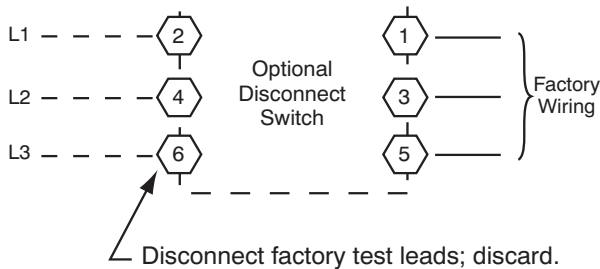

Fig. 22 - Power Wiring Connections
Field power wires are connected to the unit at line-side pressure lugs at the main terminal block (TB1) or at factory-installed option non-fused disconnect switch. Max wire size is #2 AWG (copper only). (See Fig. 22)
Size wire based on MCA (Minimum Circuit Amps) on the unit informative plate. See Fig. 22 and the unit label diagram for power wiring connections to the unit power terminal blocks and equipment ground. Maximum wire size is #2/0 AWG per pole.
The factory-installed option disconnect switch is located in a weatherproof enclosure located under the main control box. The manual switch handle is accessible through an opening in the access panel. Discard the factory test leads (see Fig. 22). The factory disconnect is an 80A disconnect.
2. Install power lines to terminal connections as shown in Fig. 22.